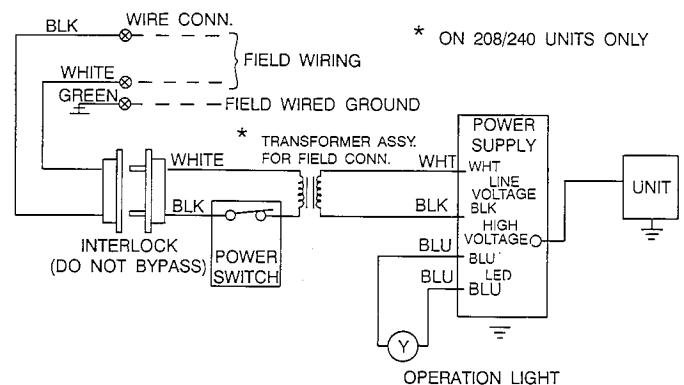

Fig. 10—Wire Routing
3. Install protective bushing through top rail as shown in Fig. 10.
5. Route power wires through bushing channel at top of cabinet, down side channel, and through bushing in side channel and into furnace opening. See Fig. 10.